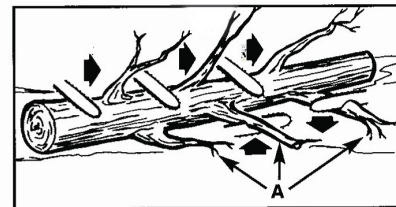

Fig. 11
Limbing a tree is the process of removing the branches from a fallen tree. Do not remove supporting limbs (A) until after the log is bucked (cut) into lengths (Fig. 11). Branches under tension should be cut from the bottom up to avoid binding the chain saw.